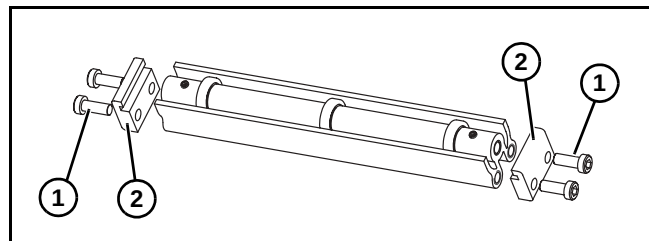

Figure 13
1. Locate return rollers. Exploded view shown in **Figure 13**.
2. Remove screws (**Figure 13, item 1**) and clips (**Figure 13, item 2**) from roller assembly.